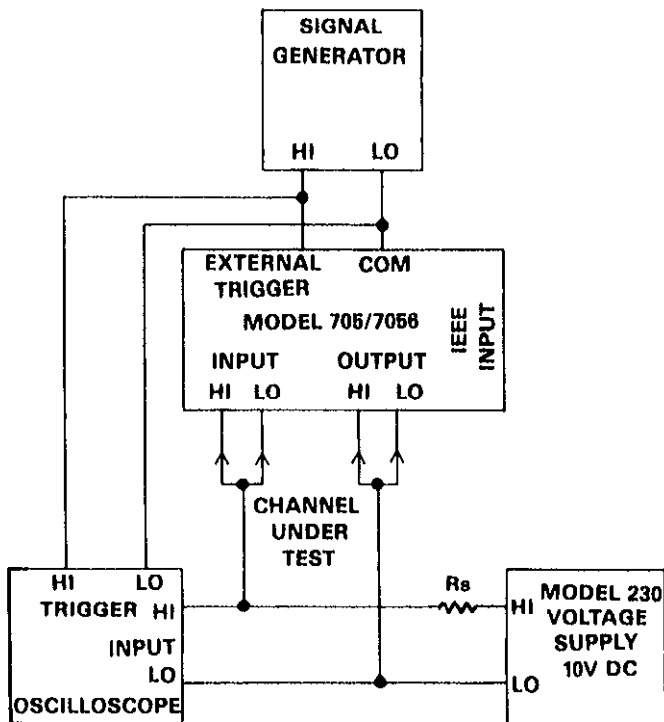

Figure 5. Model 7056 Timing Test In Model 705
- B. Figure 5 shows the equipment setup for this test. Select Channel 1.